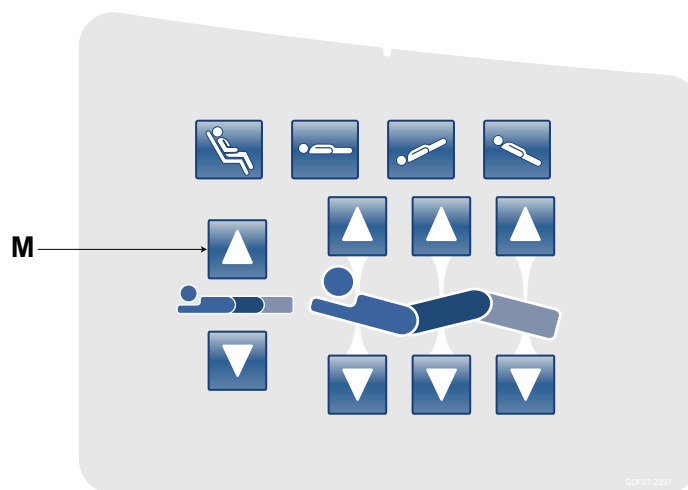

Figure 15 – Reverse Trendelenburg
19. To place the bed at -12 degrees Reverse Trendelenburg, press the **Bed Height Up (head lift up) (M)** button (Figure 15). Verify -12 degrees +/- 0.1 with the inclinometer you previously placed on the bottom of the litter frame in step 11.